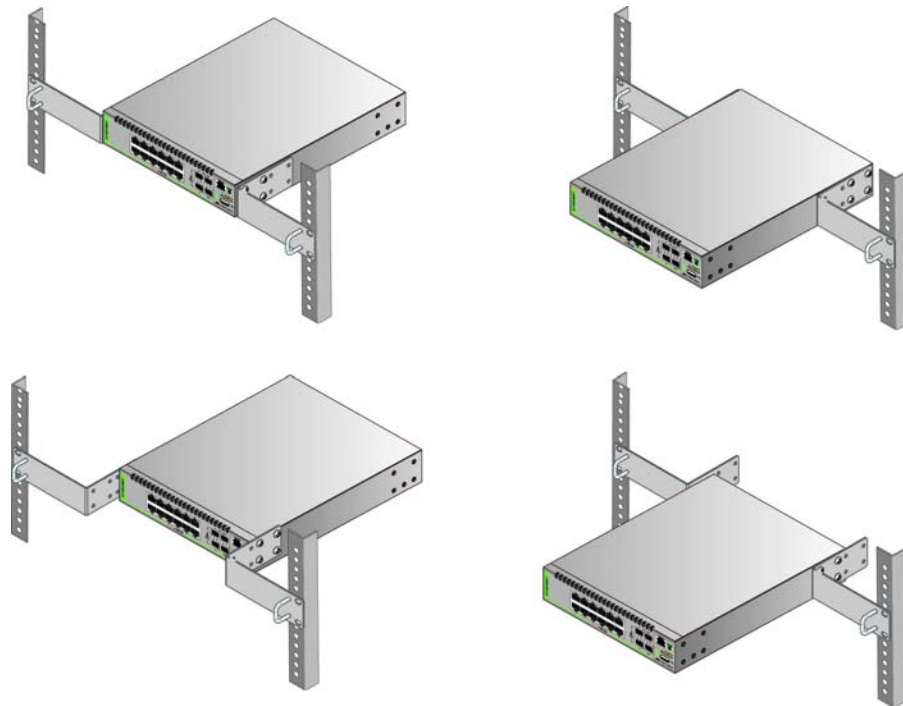
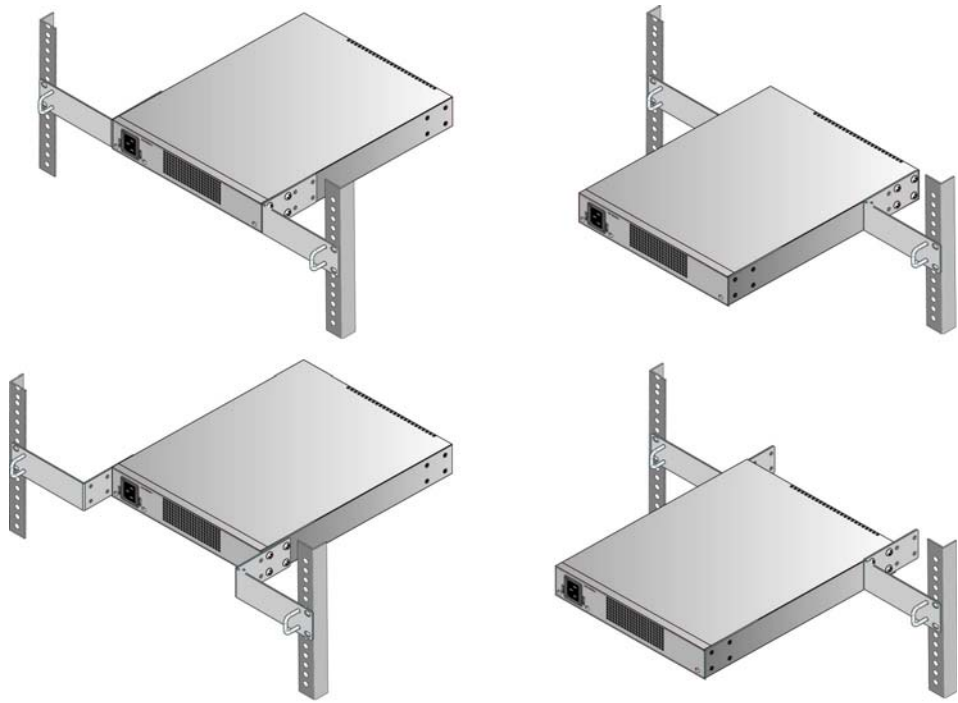
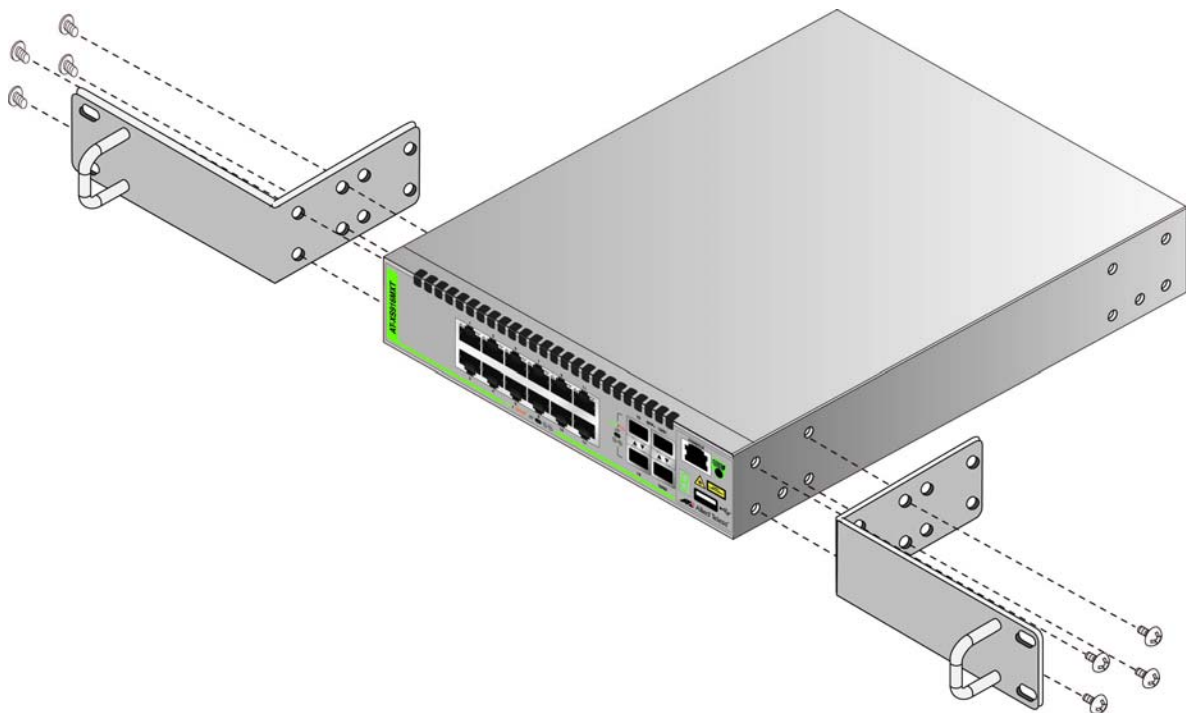

Figure 25. Switch Orientations with the Front Panel Facing the Front of the Equipment Rack
Figure 26. Switch Orientations with the Rear Panel Facing the Front of the Equipment Rack
Figure 28. Attaching the AT-RKMT-J14 Brackets to the Switch
You can use the different sets of holes on the switch and brackets to install the switch in the equipment rack in a variety of orientations. You can install it with the front panel flush with, extending in front of, or recessed behind the front of the equipment rack. The illustrations in Figure 25 show the switch orientations with the front panel facing the front of the equipment rack.
You can also orient the switch with the rear panel facing the front of the equipment rack. Refer to Figure 26.
3. Attach the two brackets to the sides of the switch in the selected position, using the eight M4x6mm screws included with the unit. (Refer to Figure 25 on page 60 and Figure 26 on page 61.) The illustration in Figure 28 shows the installation of the brackets such that the front panel of the switch is even with the front of the equipment rack.